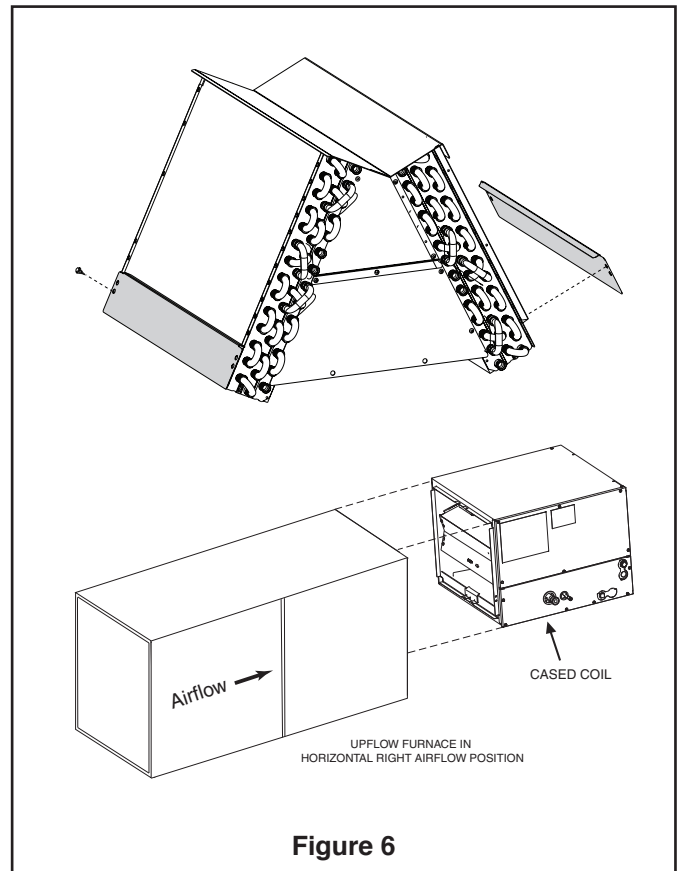

Figure 6
- c. Optional but recommended: On 4TXCC009DS and 4TXCD010DS only, remove the (2) outer water diverter baffles by removing the 5/16" hex head screws. See Figure 6.
The 4TXC cased coil must be placed downstream of the furnace. See Figure 6 for proper orientation.